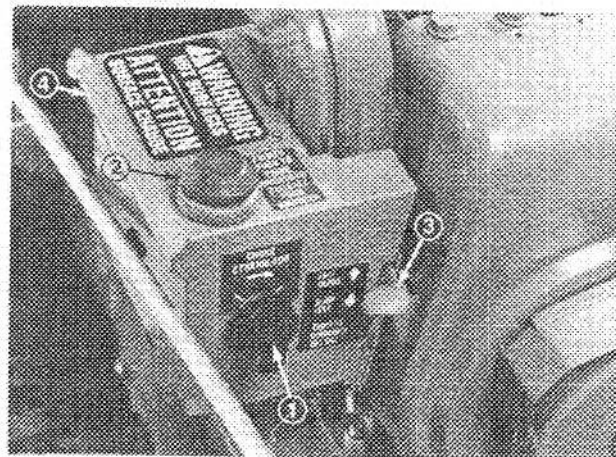

Figure 20
**Note:** If engine is operated when temperature is +40° F (4° C) or higher, remove carburetor heater box (Fig. 20). However, the heater box must be re-installed when temperature falls below +40° F (4° C). To remove heater box:
- A. Remove phillips screws and hex head screw securing heater box in place. Pull choke knob off choke rod (Fig. 20).
1. Move throttle to FAST (Fig. 20).
3. Rotate choke clockwise to full choke position (Fig. 20).
5. Depress primer (Fig. 20) five times.
7. After engine starts, immediately rotate choke (Fig. 20) to 3/4 position. As engine warms up,